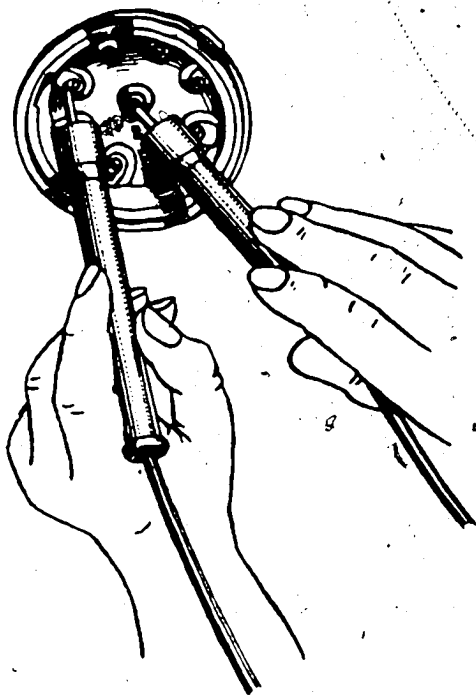

Fig. 1
2. Insulation (see also Fig. 1)